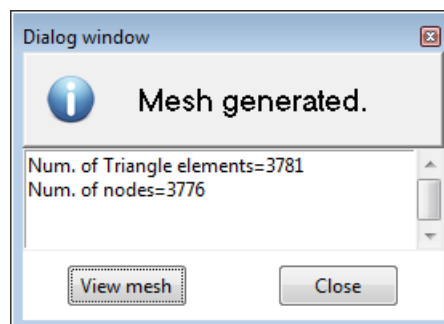

Figure 29. Information about the generated mesh
- 3 . Select **Mesh->Generate Mesh**. When the mesh has been generated, a window appears with information about the mesh (Figure 29). The result is a non-conformal mesh composed of far fewer elements than the meshes generated in the previous section: about 4000 elements instead of the 10.000 needed to generate the conformal mesh.